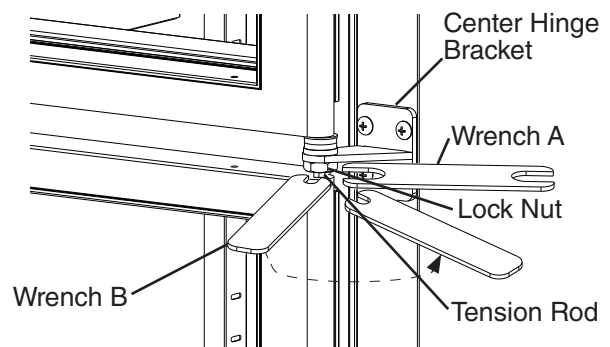

Fig. 54
- 4) Turn wrench B counter-clockwise to relieve tension on the tension rod. Without releasing the pressure on wrench B and the tension rod, use wrench A to tighten the lock nut. See Fig. 54.